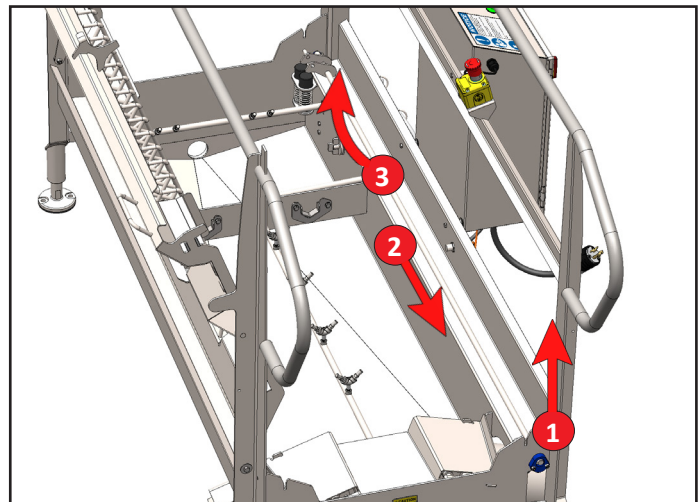

Fig. 12.2 Balancer Weldment removal procedure
2. Lift the end of the Spring Balancer into the upper section of its keyhole. [Figure 12.2 - Arrow 1]
3. Slide the Spring Balancer through the upper section of the keyhole to release its other end. [Figure 12.2 - Arrow 2]
4. Lift the free end up while sliding the Spring Balancer out the keyhole to remove from the tub. [Figure 12.2 - Arrow 3]